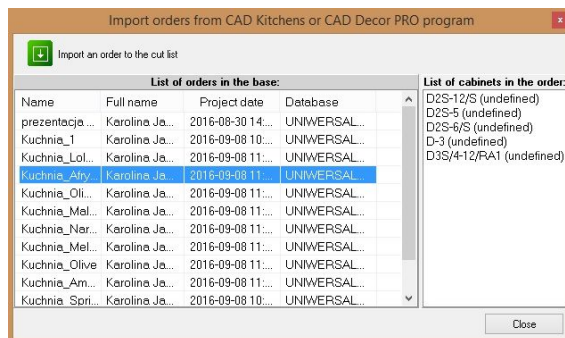

Fig. 48 – importing an order from CAD Decor PRO
- 6)  **Import orders** – opens a window called **‘Import orders from CAD Kitchens or CAD Decor PRO’** (Fig. 48), in which you can get to the cut list the formats of components of all cabinets from a chosen order created in CAD Kitchens or CAD Decor PRO. In this window you will see a list of orders created in the above programs, but only those, which have been at least once valued (this means that during working in CAD Kitchens or CAD Decor PRO you used the **‘Valuation’** option in the **CAD-Kitchens** toolbar).